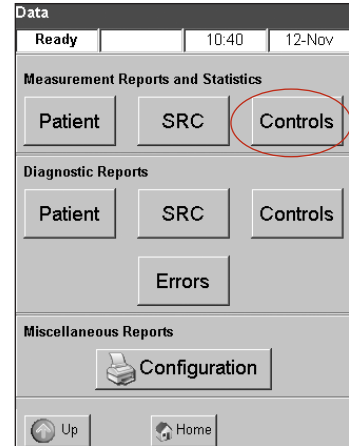

Figure J-7: Data screen > Controls button
2. In the Measurement Reports and Statistics section, tap **Controls** (Figure J-7).